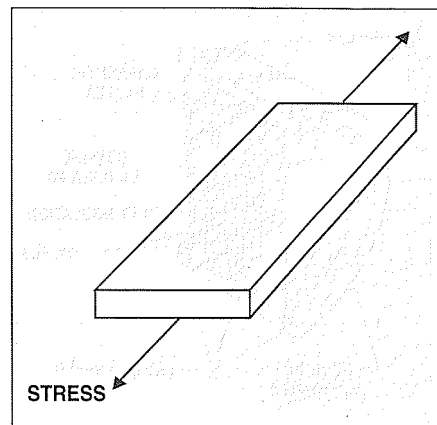

Figure 20. Strain gauge pressure sensors measure the strain in a material that is subjected to applied stress.
**Strain Gauge Pressure Sensors.** Strain gauge sensors originally used a metal diaphragm with strain gauges bonded to it. A strain gauge measures the strain in a material subjected to applied stress. Consider a strip of metallic material (see Figure 20, page 38) with electrical resistance given by: